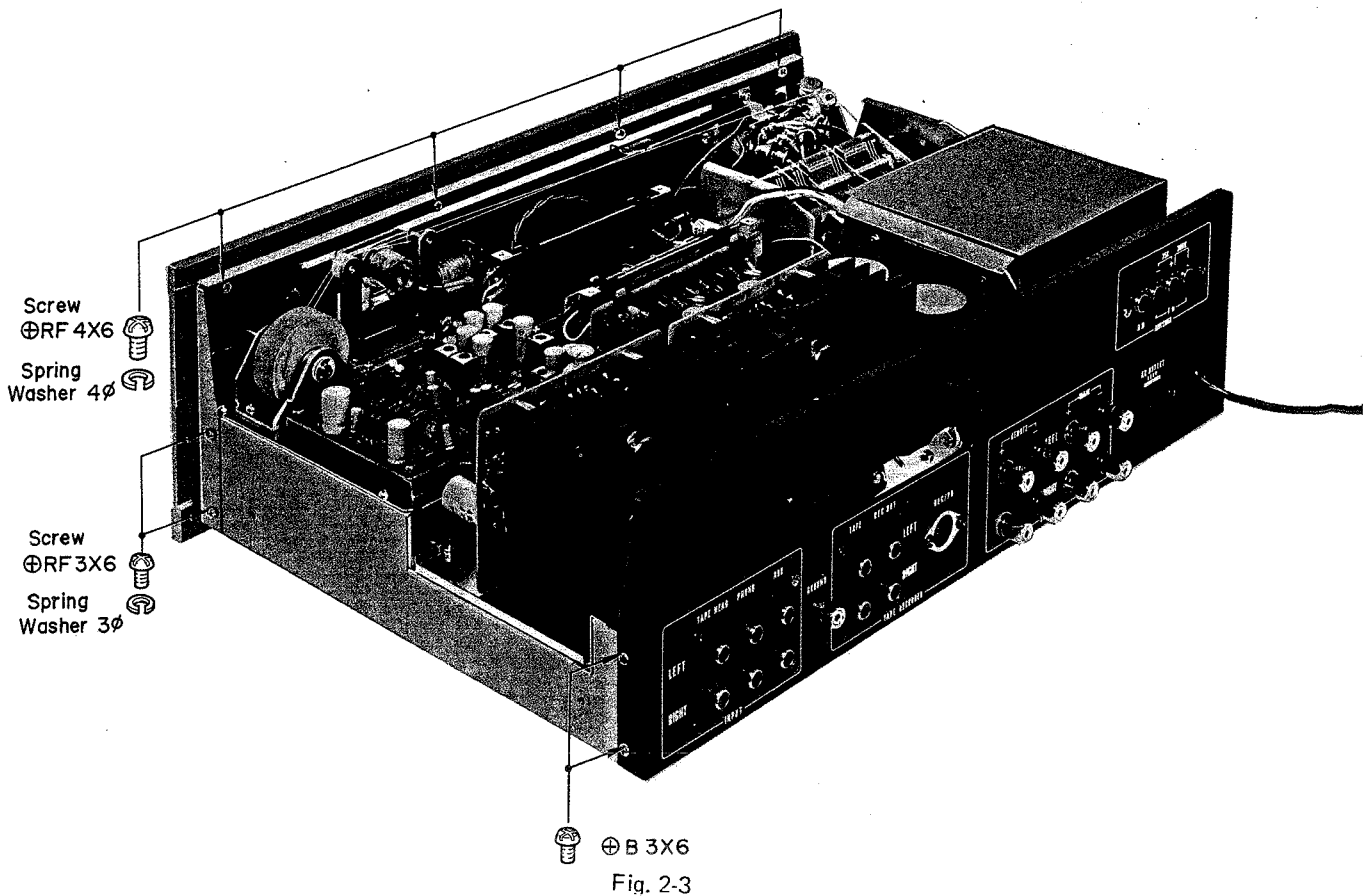

Fig. 2-3
- (c) Remove the four Phillips-head screws (+ RF 4φx6) behind the top edge of the Front Panel assembly (The vertical bracket that mounts the dial and tuning meters.) See Fig. 2-3.
- (b) Remove the two machine screws (+ B 3φx6) on both sides of chassis. See Fig. 2-3